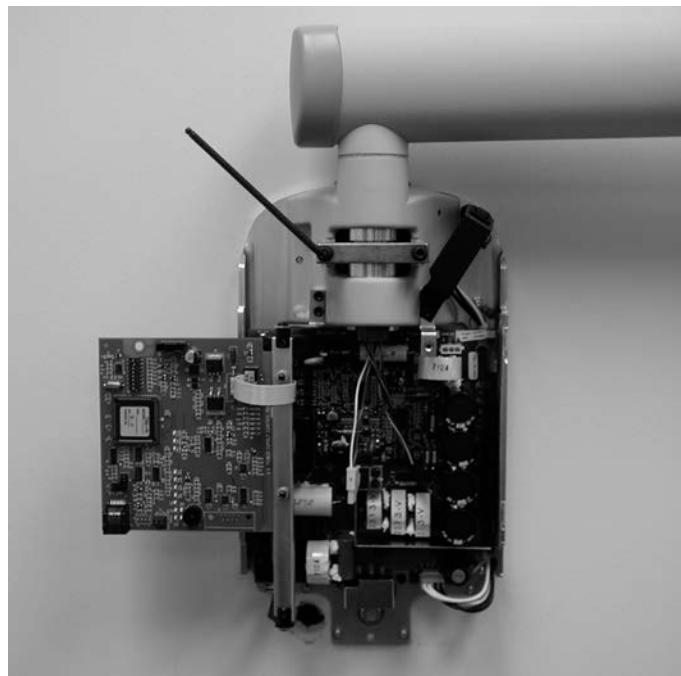

Figure 32
2. Using a 4 mm Allen wrench, as shown in *Figure 32*, tighten the screws equally to apply adequate braking to the pivot post so that Horizontal Arm begins to move after the Articulating Arm.